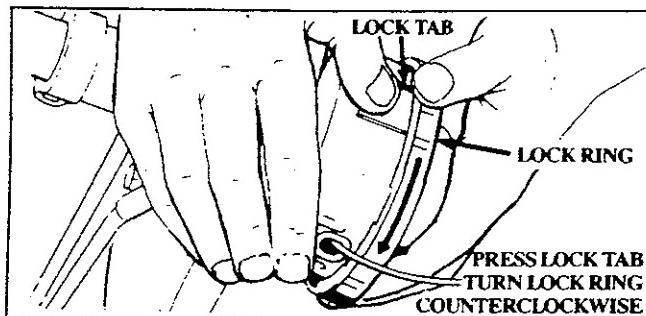

Figure 16
- a. Hold the Trimmer Head as shown in Figure 16. Press the lock tab, and turn lock ring counterclockwise ←.